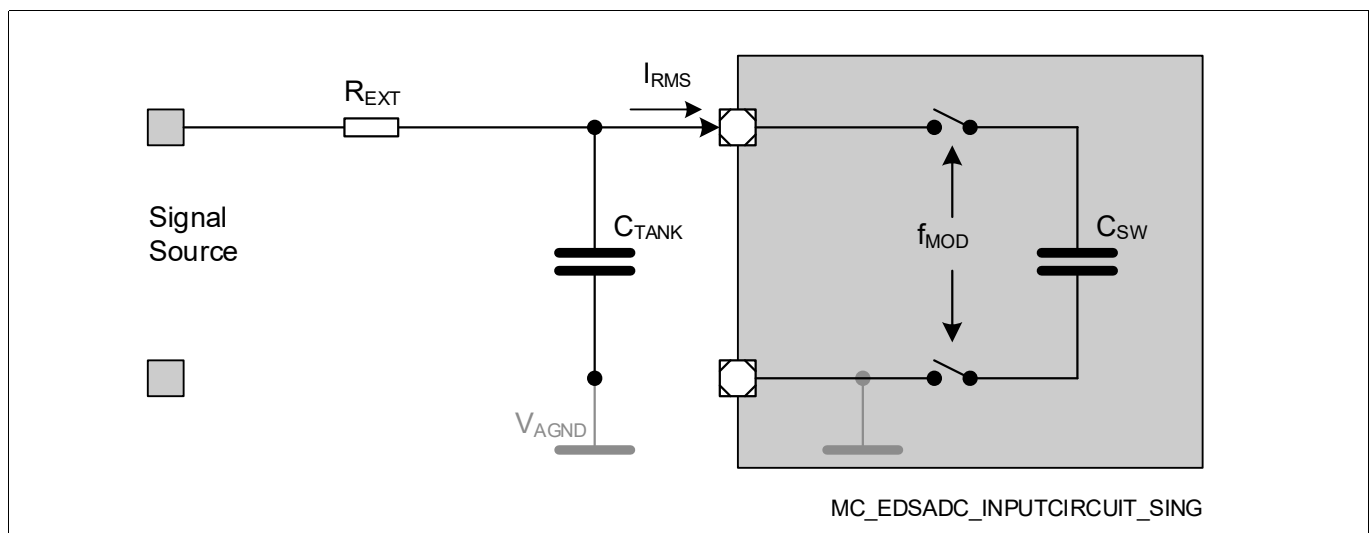

Figure 295 Single-Ended Input Circuitry of a Channel
- Single-ended operation (see Figure 295):
Note: This description example assumes the single-ended sensor signal to be connected to the positive input and the negative input to be grounded internally (indicated in grey in Figure 295).